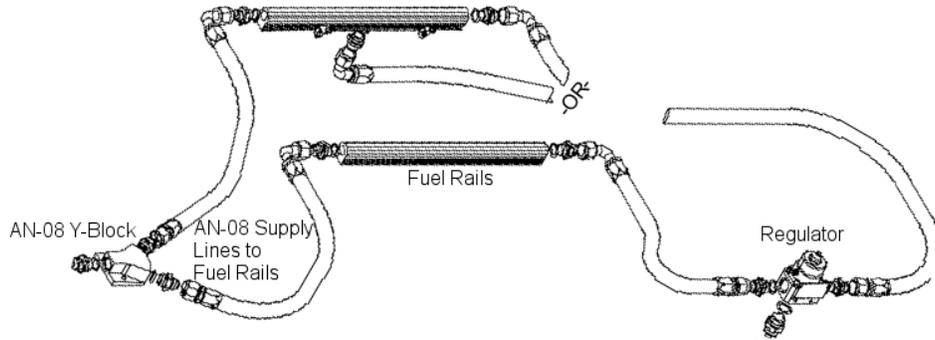

Figure 3-2
- 3-12. Starting from the fuel rails, plan a route to run an AN-08 supply line from each fuel rail to each side of the Y-block, see figure 3-2. Cut the two supply lines to the determined length and install the AN-08 hose ends, as detailed in Section 4.